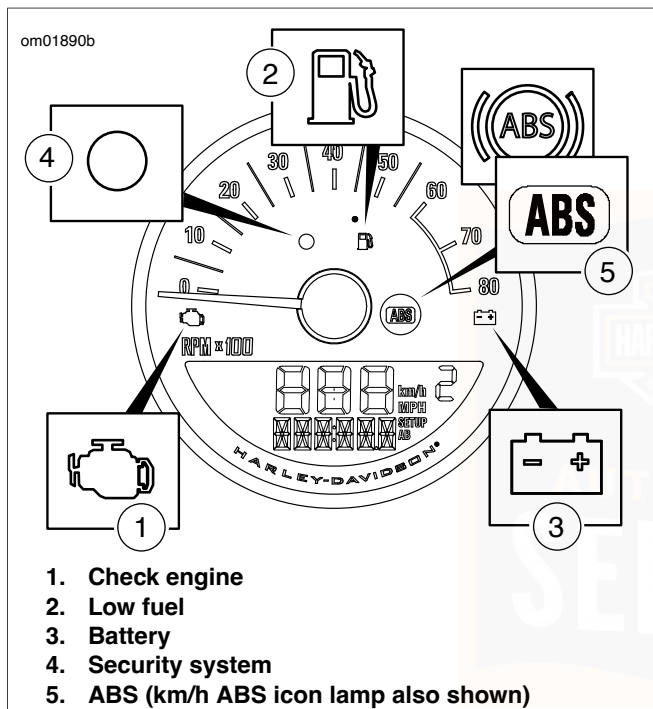

Figure 11. Instrument Lamps: XL1200CX
- **XL1200CX:** See Figure 11.